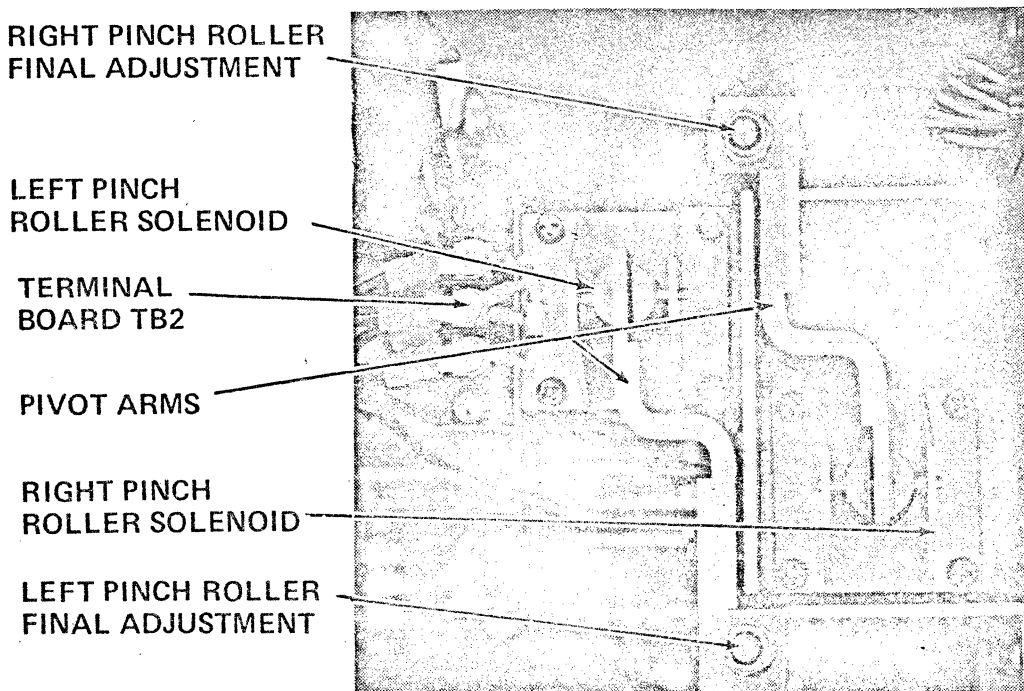

Figure 11. Pinch Roller Solenoid Mounting Details
2. PINCH ROLLER SOLENOID REPLACEMENT (refer to figure 11)